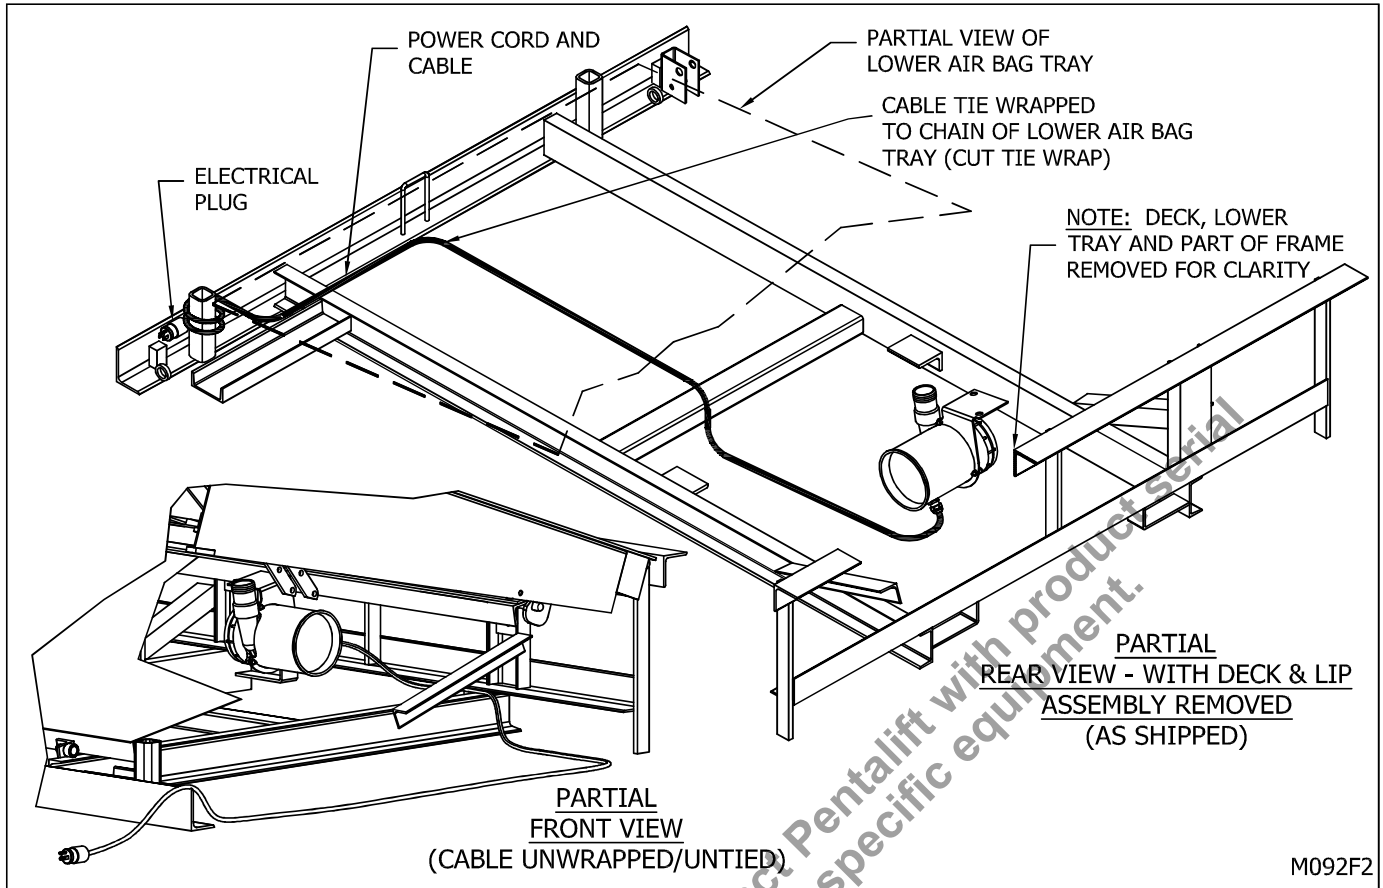

Figure 7a: Temporary Power Cord & Plug
Note: Ensure temporary wire is accessible through front of dock leveler. (“Figure 7a: Temporary Power Cord & Plug” on page 12)
4. Raise dock leveler by plugging dock into power supply with the supplied power cord and plug assembly (see “Figure 7a: Temporary Power Cord & Plug” on page 12) .
11. ___ Connect the temporary wire from the power supply to the temporary wire supplied with the dock leveler. (“Figure 7a: Temporary Power Cord & Plug” on page 12)